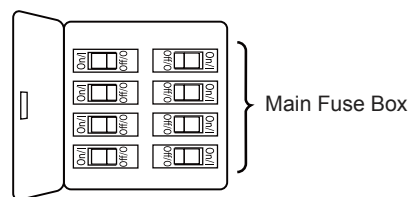
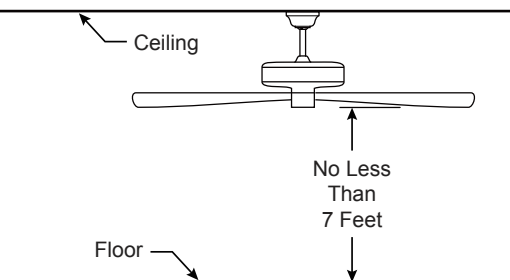

Figure 1
Figure 2
Your new ceiling fan will require a grounded electrical supply line of 120 volts AC, 60 HZ, 15 Amp Circuit. Electrical code requires use of a fan-rated outlet box to support the extra weight and motion associated with a ceiling fan. A fan-rated outlet box will be labeled as such and typically supports up to a 70lb ceiling fan. Fan-Rated Outlet Boxes vary in ratings and design. Ensure the ratings of your ceiling fan outlet box meet the requirements for the ceiling fan being installed. Figure 1, Figure 2 and Figure 3 depicts different structural configurations that may be used for mounting the outlet box.
Low profile outlet box (Figure 1)
Deep outlet box (Figure 2)
1. Remove the hanger ball portion from the downrod/hanger ball assembly by loosening the set screw in the hanger ball until the ball falls freely down the downrod. Remove the pin from the downrod, then remove the hanger ball. Retain the pin and hanger ball for reinstallation in Step 6. (Figure 1)
2. Remove the hairpin clip and clevis pin from the bottom of the downrod. Retain the pin and clip for reinstallation in Step 4. (Figure 2)
To avoid possible fire or shock, be sure electricity is turned off at the main fuse box before hanging. (Figure 1)
The fan must be hung with at least 7' of clearance from floor to blades. (Figure 2)
1. To set the code on receiver unit, slide dip switches to the same positions as set on the remote control. (Figure 1)
To avoid possible electrical shock, be sure electricity is turned off at the main fuse box before wiring. (Figure 2)
- ☐ 1. Assemble canopy by rotating key slot in canopy over shoulder screw in hanger bracket, taking care not to pinch the wires. Fully assemble and tighten second shoulder screw that was previously removed, then tighten another shoulder screw. (Figure 1)
- ☐ 2. Securely attach and tighten the canopy screw cover over the shoulder screws in the hanger bracket utilizing the key slot twist-lock feature. (Figure 2)
- ☐ 1. Secure the three blades using the 1/4\"-20 screws and blade plate assembly through the holes located on the bottom of the motor housing assembly. (Figure 1)
- ☐ 2. Position the trim cover onto the blade plate assembly bottom. (Figure 2)
- ☐ 1. **IMPORTANT:** Using a full range dimmer switch (not included) to control fan speed will damage the fan. To reduce the risk of fire or electrical shock, do not use a full range dimmer switch to control the fan speed. (Figure 1)
- ☐ 2. Restore electrical power to the outlet box by turning the electricity on at the main fuse box. (Figure 2)